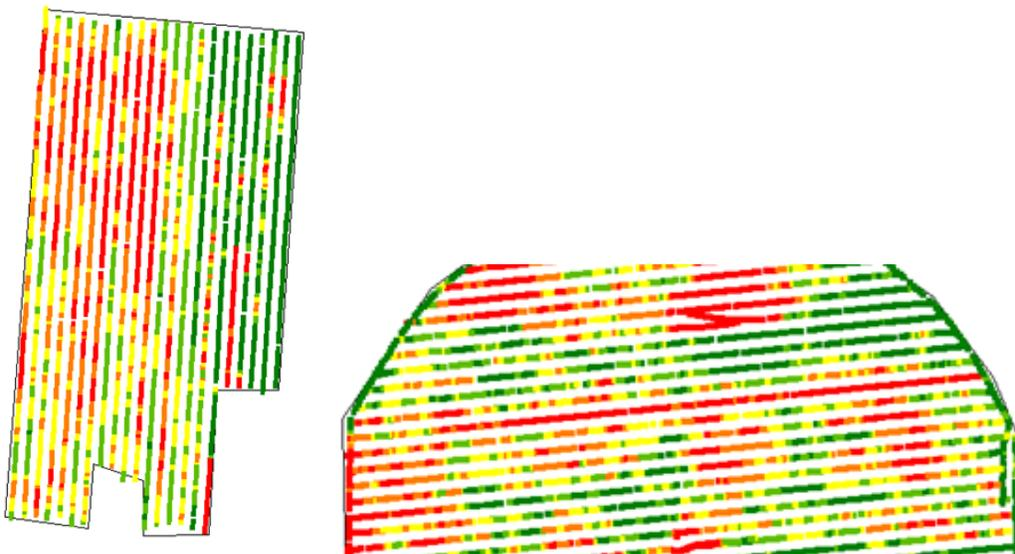
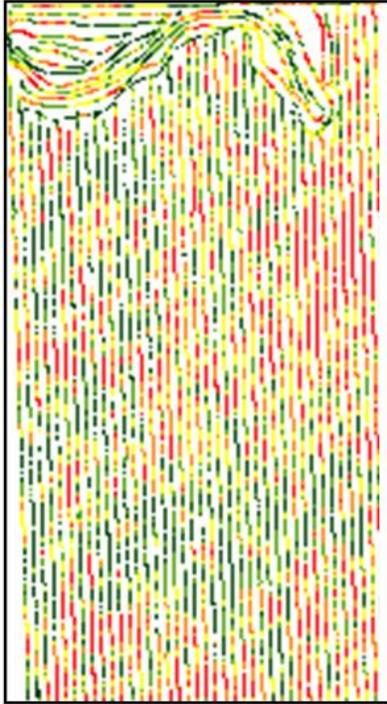

Figure 3. Stripes due to inconsistent penetration or equipment issue
Figure 4. Mapping at a slight angle to main fieldwork pattern
c) Inconsistent row unit penetration—if the OpticMapper encounters a wheel track on one pass and soft soil the next, there will be a different sensing depth for the two passes. Similarly, if one pass is in bare soil and the next behind the combine pass with thick residue, there could be a moisture difference at the sensor operating depth. These appear as stripes in the map (Figure 3). To avoid, drive at slight angle to predominate field traffic pattern if possible; this should eliminate streaks/strips, and will help isolate cause if they occur (Figure 4). If not possible to map at angle, avoid wheel tracks and heavy residue strips if possible. Move over if necessary—consistent soil conditions are more important than consistent swath width.